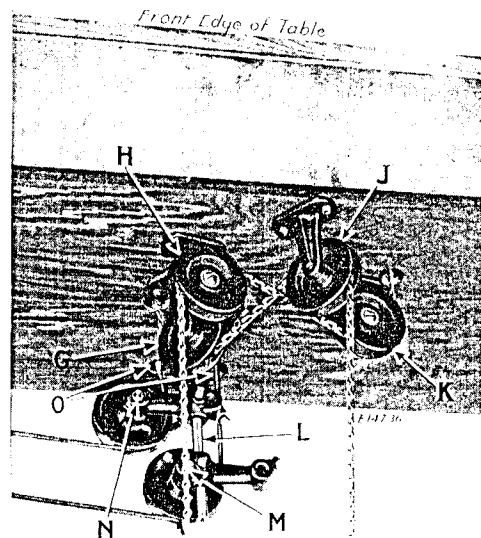

Fig. 3. Underside of Table, Showing Location of Idler and Treadle Chain Guides for Individual SINGER Electric Motor Operation of Class 71- Machines
If the machine is to be driven by a pulley mounted on either a floor or table shaft to the rear of the idler bracket complete (L), the idlers and idler arm should be assembled with the pulleys mounted in the two holes of the arm furthest from the vertical rod hole, as shown at N, Fig. 3. Should it be necessary to drive the machine from a shaft lying between the rear of the machine and the front of the table, the two pulleys should be assembled with the pulleys mounted in the holes of the arm nearest to the vertical rod hole, as shown at M, Fig. 3.
The foregoing instructions should be followed with the exception that the belt idlers (L, Fig. 3) and arms must be assembled
as illustrated in Fig. 3. The belt should be applied around the pulley of motor, around the idlers, up through the holes (O, Fig. 3) in the table and around the pulley of the machine.